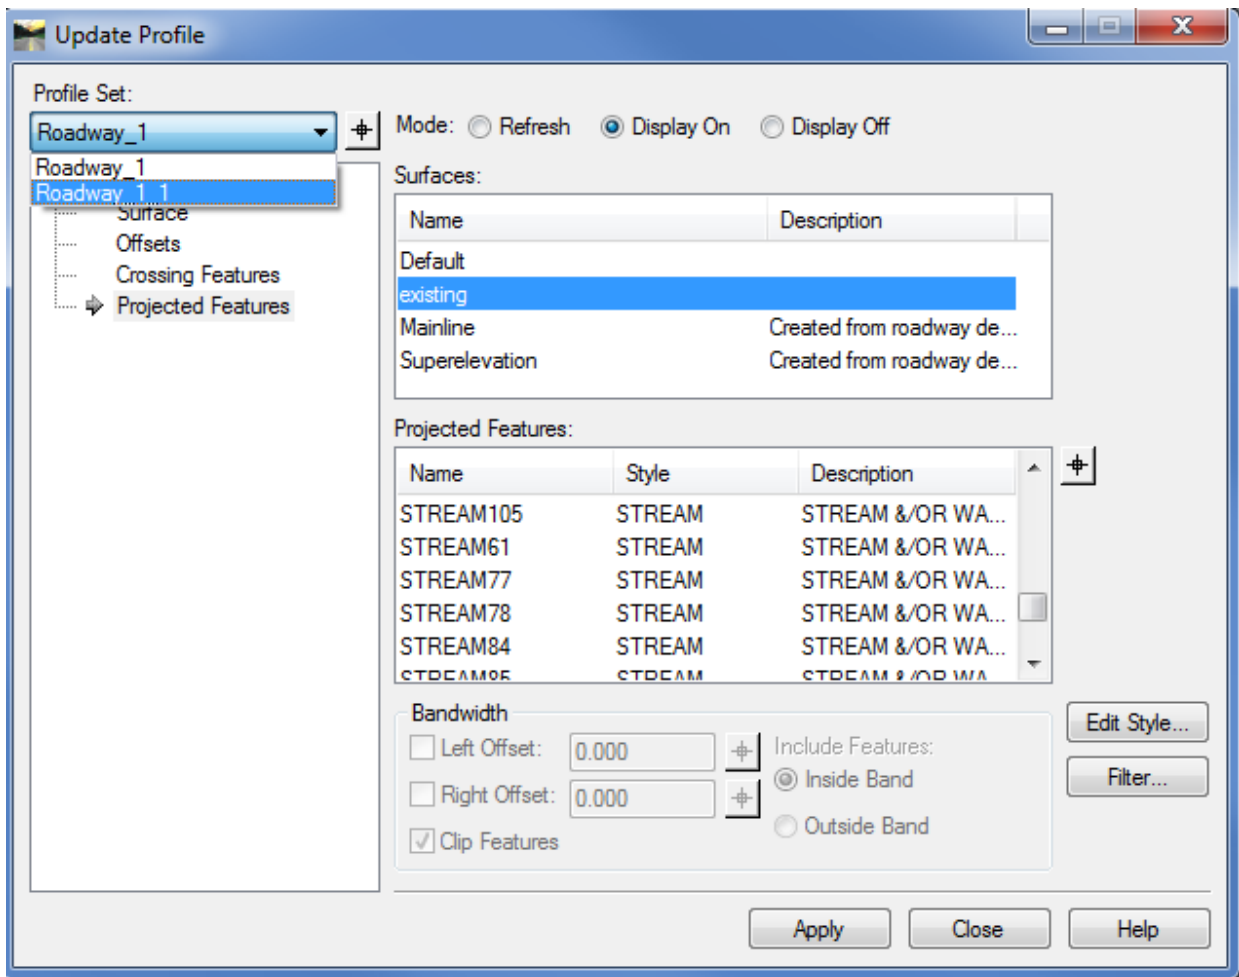

Figure 5-2 InRoads Update Profile Dialog Box
- A. Select **Evaluation > Profile > Update Profile** (Figure 5-2 will appear).
- D. Select **Projected Features**. In the Surfaces section, click the **existing** surface. In the Projected Features section select all the **STREAM** features. Click **Apply**. Figure 5-2 shows the Update Profile dialog box.